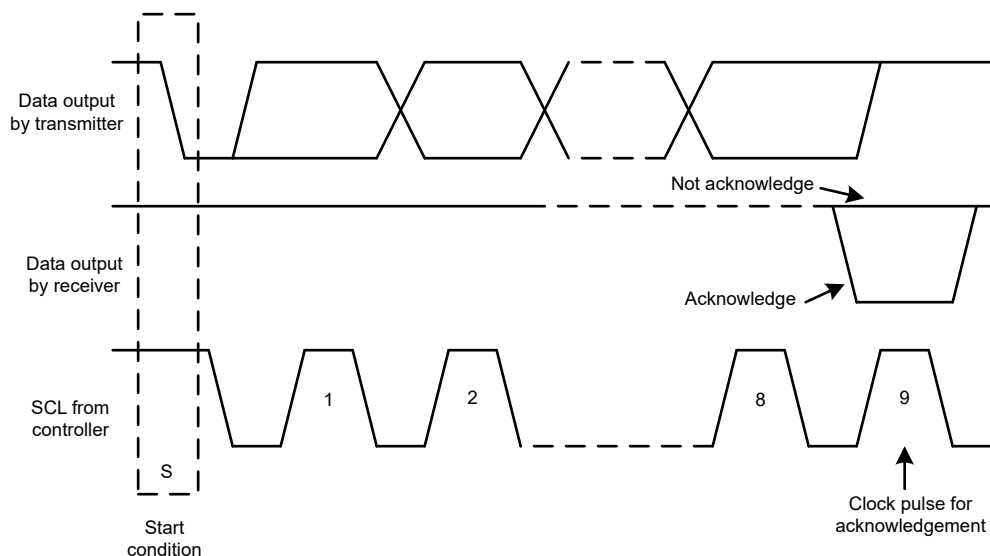
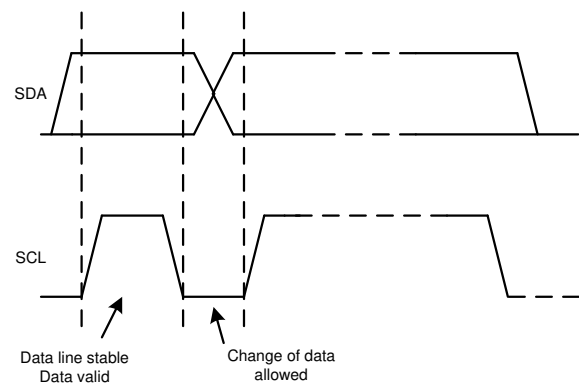

Figure 7-3. Acknowledge and Not Acknowledge on the I²C Bus
Figure 7-5. Bit Transfer on the I²C Bus
Other than specific timing signals, the I²C interface works with serial bytes. At the end of each byte, a ninth clock cycle generates and detects an acknowledge signal. An acknowledge is when the SDA line is pulled low during the high period of the ninth clock cycle. Figure 7-3 shows that a not-acknowledge is when the SDA line is left high during the high period of the ninth clock cycle.
2. The controller then generates the SCL pulses, and transmits the 7-bit address and the read/write direction bit ($R/\bar{W}$) on the SDA line. During all transmissions, the controller makes sure that data are valid. Figure 7-5 shows that a valid data condition requires the SDA line to be stable during the entire high period of the clock pulse. All devices recognize the address sent by the controller and compare the address to the respective internal fixed address. Only the target device with a matching address generates an acknowledge by pulling the SDA line low during the entire high period of the 9th SCL cycle (see Figure 7-3). When the controller detects this acknowledge, the communication link with a target has been established.